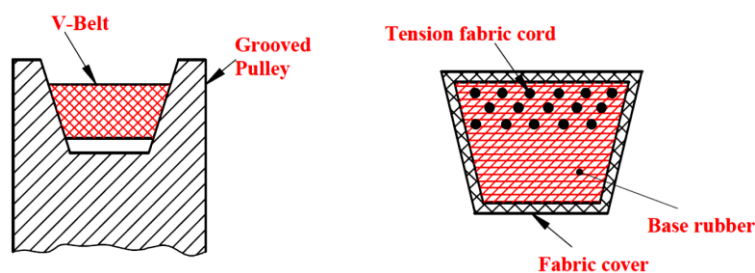

Fig. 4.4 V- belt drives
- V-belts are used in high power transmission due to wedging action between the trapezoidal belt & the grooves on the pulley. Fig. 4.4 shows the V-belt drives.
Fig. 4.4 graphical representation of V-belt drives